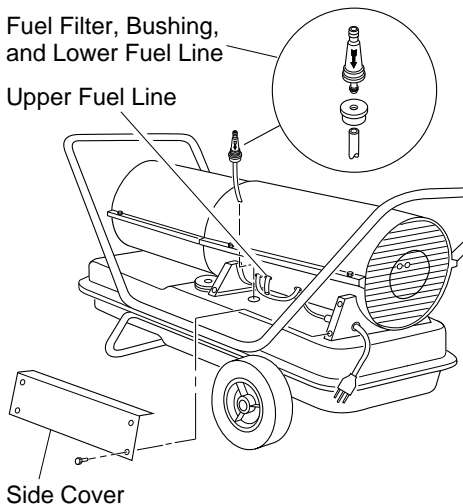

Figure 9 - Fuel Filter Removal
3. Remove 4 side cover screws with a 5/16" nut driver. Remove side cover (see Figure 9).
12. Replace side cover (see Figure 9).